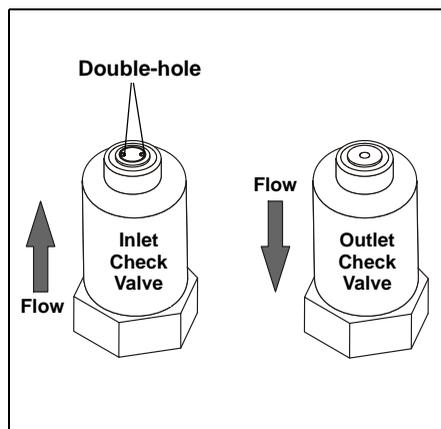

Figure 5-10. Check Valve Assemblies
1. Install the new inlet cartridge (P/N 047755) in the inlet check valve housing so that the double-hole end of the cartridge is visible (see Figure 5-10).